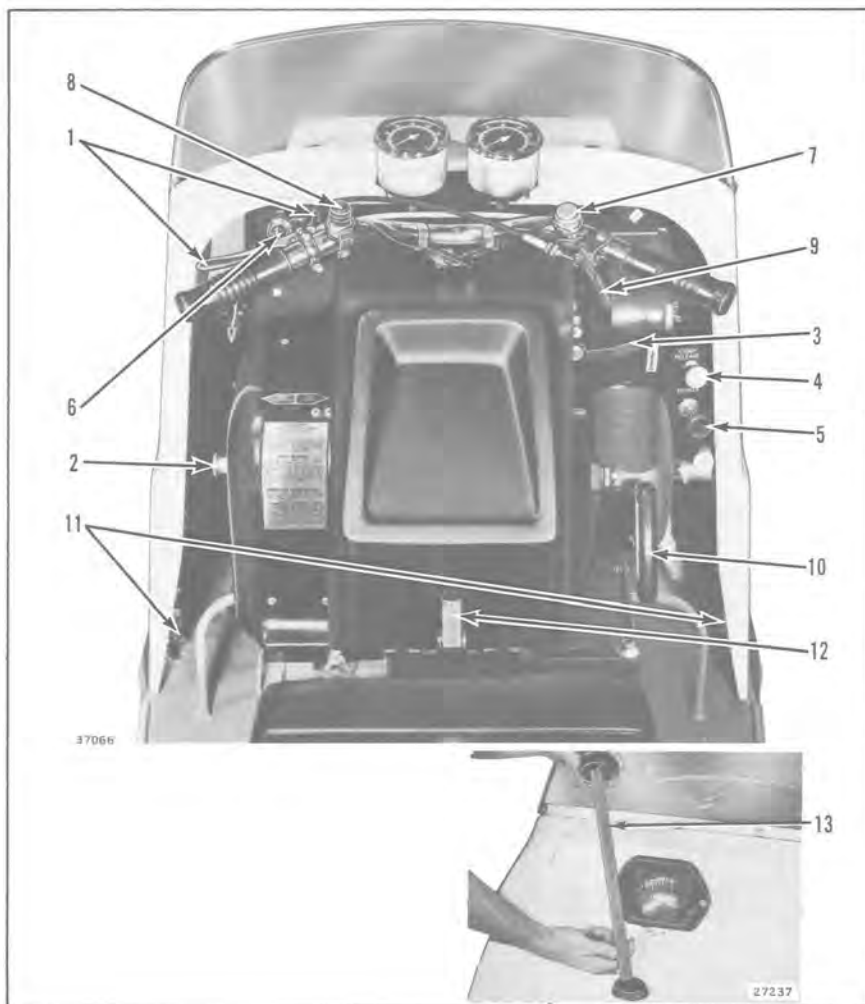

Figure 1-2
1. HAND BRAKE AND PARKING LOCK - To apply brake, squeeze brake lever. NOTE: Do not race engine with brake applied. To apply parking lock, with brake engaged, flip parking lock into position as illustrated in Figure 1-2. To release, squeeze brake lever.